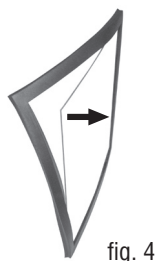

fig. 4
• Replacing Front Lens Plate. (See fig. 4)